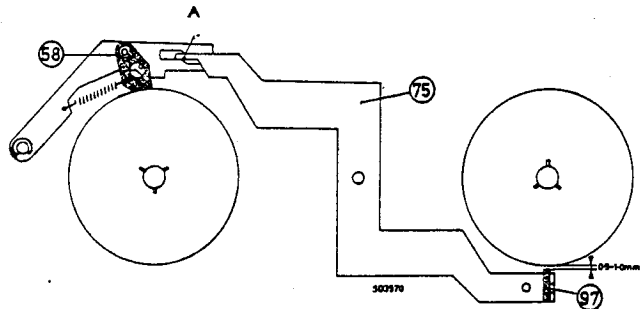

Fig. 1
- Improved brake construction** (See Figs. 1 and 2)
Ensure that recorder is in STOP position. Press brake shoe 58, Figs. 1 and 2, to the left. Bend lug A so that in this position of brake shoe 58, the distance between the right-hand turntable and right-hand brake shoe 97, is 0.5 to 1.0 mm.